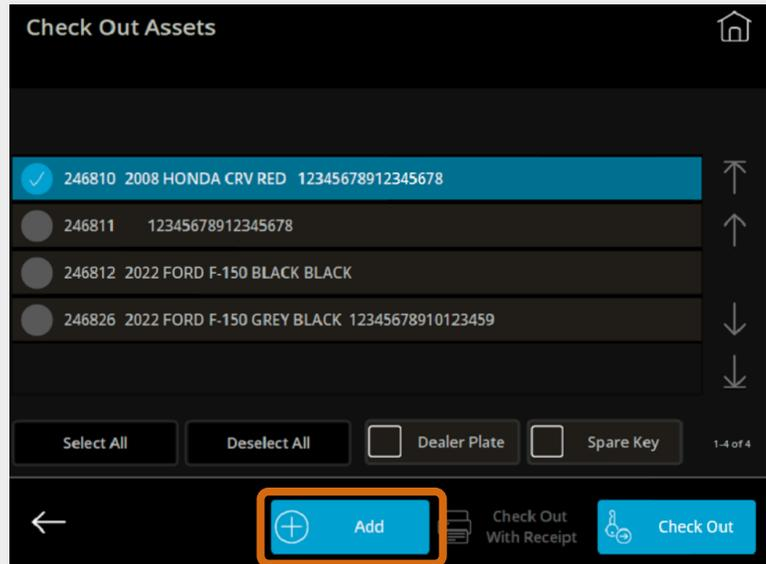

Fig. 47 – Check Out Assets screen with Add button indicated
- Press **Add**, as shown in Fig. 47, to return to the keyboard screen and find additional keys to check out. If you do not wish to check out additional keys, skip this step.